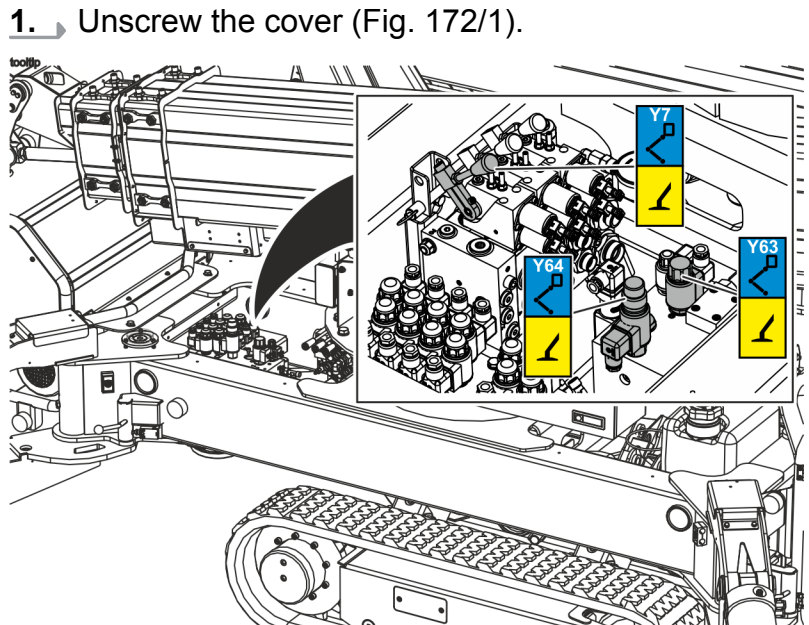

Fig. 173: Valves for outriggers
Completely screw in the pressure relief valve (Fig. 173/Y64).
3. Unscrew and remove the black cap (Fig. 173/Y63) from the release valve and completely screw out the valve actuator.
4. Push the valve (Fig. 173/Y7) down and hold it.